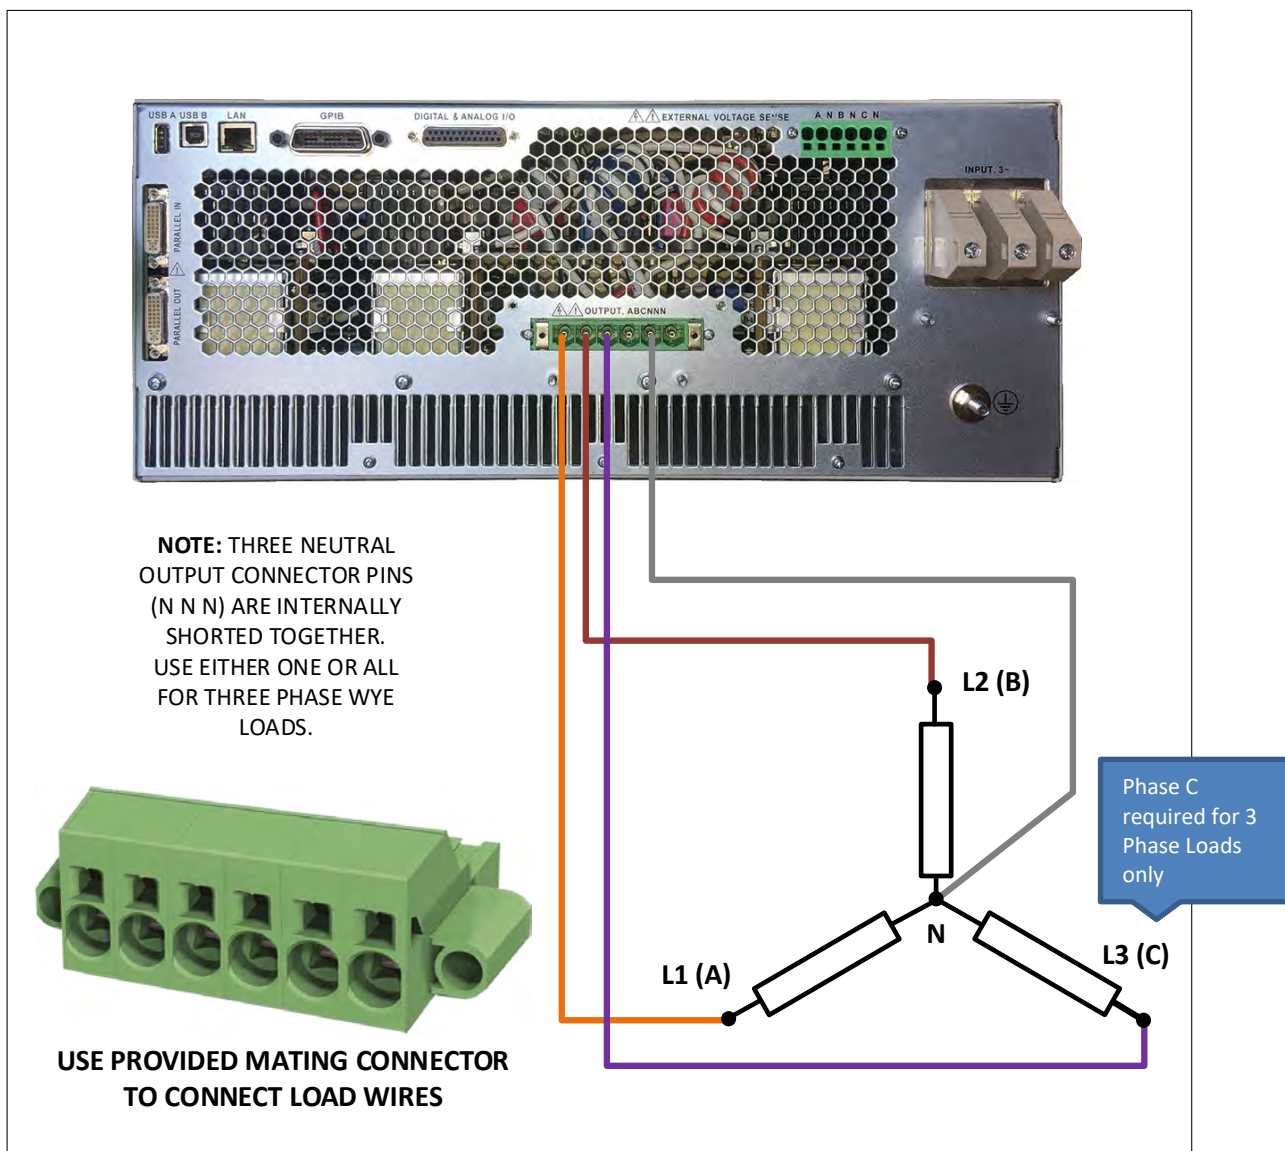
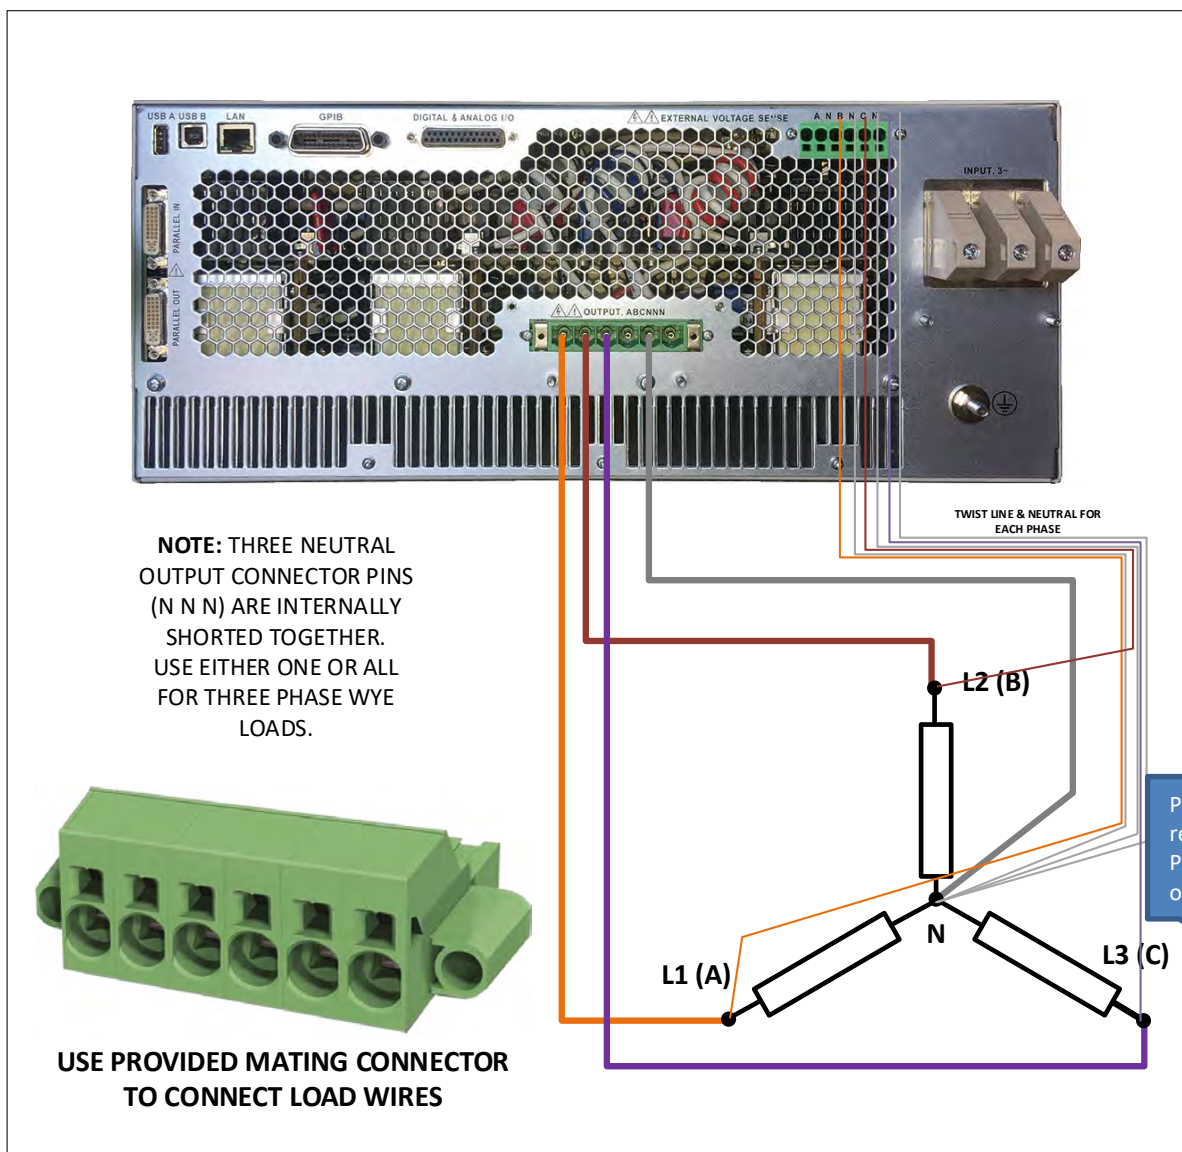

Figure 5-8: Three phase Wye or Split phase Load Output Connections – Internal Voltage Sense
Figure 5-9: Three phase Wye or Split phase Load Output Connections – External Voltage Sense
The requisite WYE load output wiring is shown in Figure 5-8 using internal voltage sense and Figure 5-9 when using external voltage sense.
**Note:** For three-phase sense connection wiring (model 3150ADF), refer to Figure 5-9 for 3 phase WYE load connections and Figure 5-11 for three phase DELTA load connections.